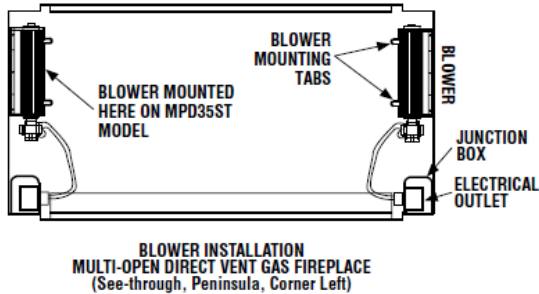

Figure 2
**Step 6. B-Gas Fireplaces – Multi-Open Direct Vent Units** – Open all remaining bottom hinged-panels. Slide the blower assembly through the closed opening in the flue side of the cabinet base. Position the blower assembly so that the tabs (located on the cabinet base) are seated in the notches of the blower bracket. Bend the tabs over to secure the blower assembly (See **Figure 2 or 3**).